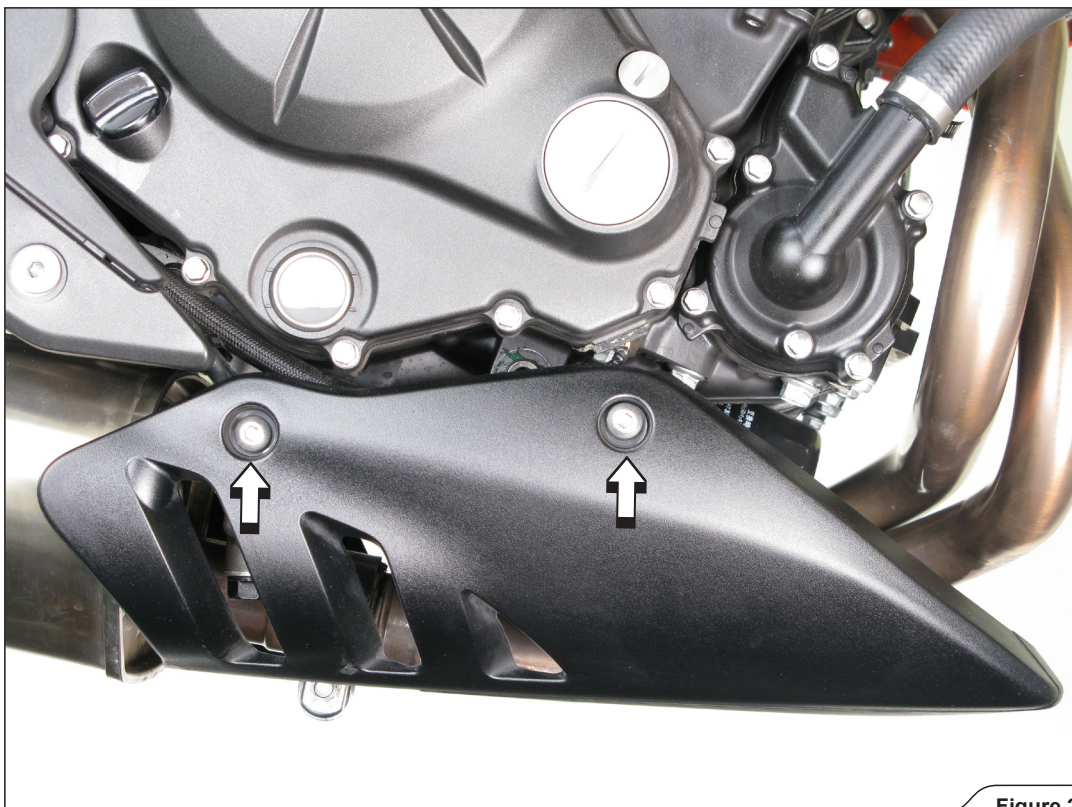

Figure 2
3. For ER-6 : Unscrew the marked bolts on both sides of the motorcycle and remove the lower part of the cowling (Figure 2).